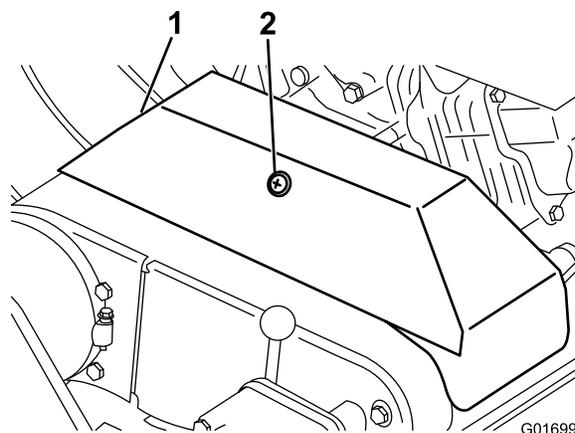

Figure 39
- Loosen the retainer securing the V-belt cover and pivot the cover open (Figure 39).
2. Loosen the retainer securing the V-belt cover and pivot the cover open (Figure 39).